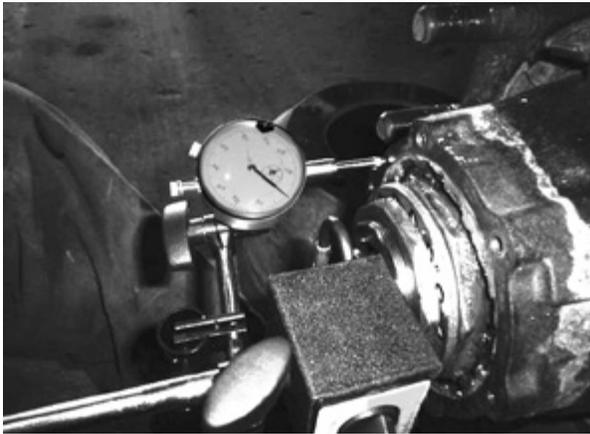

Figure 4: Checking end play
4. **Attach dial indicator** (Table 2) with magnetic base to flat surface at end of spindle (Figure 4).